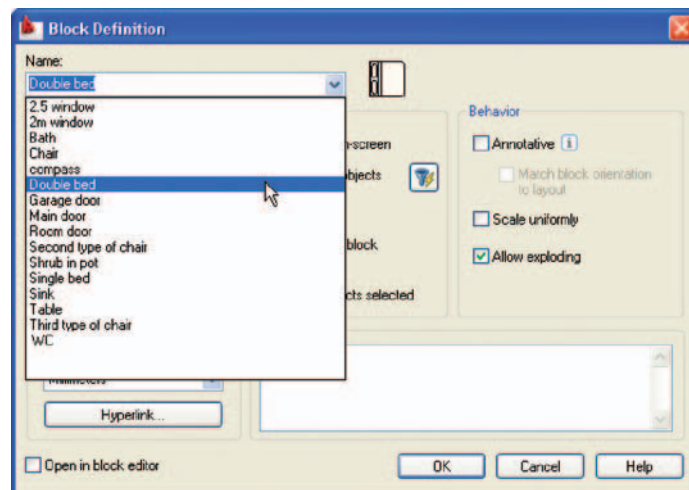

Fig. 9.4 The popup list in the **Name** field of the **Block Definition** dialog showing all blocks saved in the drawing
3. Repeat items 1 and 2 to make blocks of all the other symbols in the drawing.
4. Open the **Block Definition** dialog again and *click* the arrow on the right of the **Name** field. Blocks saved in the drawing are listed in Fig. 9.4.